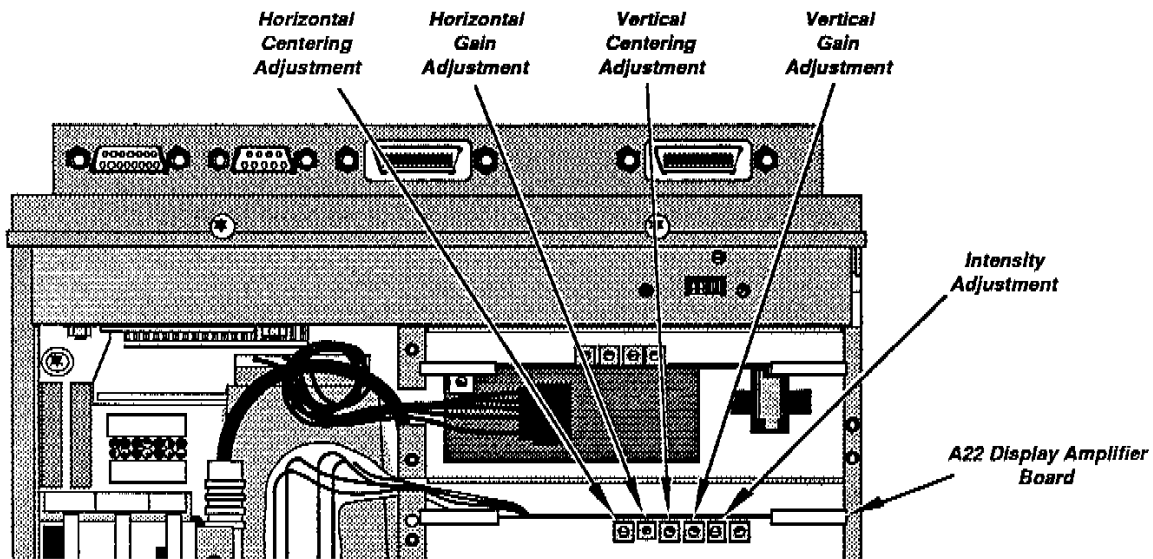

Figure 3-7. Display Amplifier Board Adjustments.
6. Adjust the INT adjustment on the Display Amplifier board (shown in Figure 3-7) until there is no degradation of character continuity (that is, until there are no tails or broken segments). This setting constitutes the maximum intensity level that can be set from the front panel.
7. Alternately, adjust Knob 2 (set for focus) and the ASTIGMATISM adjustment on the high voltage module (shown in Figure 3-7) for optimum spot roundness on the crt display. Press the ENTER button to save this setting.
2. Adjust the VERTICAL GAIN adjustment (vertical display width) and the VERTICAL CENTERING adjustment (vertical display position) on the display amplifier board (shown in Figure 3-7) for the following two things:
1. Adjust the HORIZONTAL GAIN adjustment (horizontal display width) and HORIZONTAL CENTERING adjustment (horizontal display position) on the display amplifier board (shown in Figure 3-7) so that the left and right sides of the crt display extend to within 0.125 inch (3.0 millimeters) of the left and right sides of the crt screen, respectively.